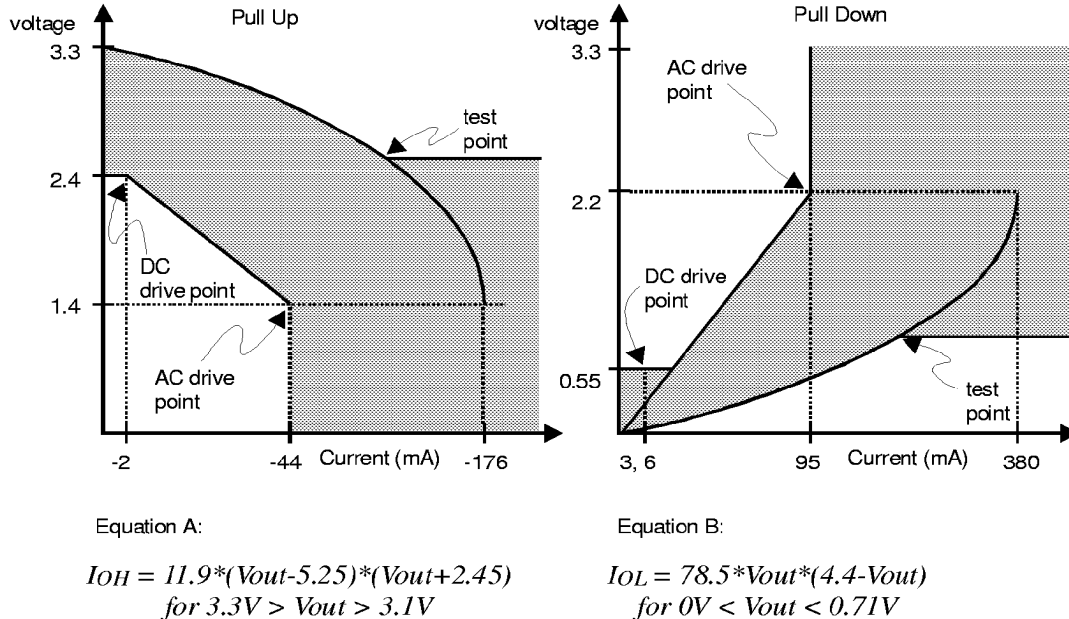

Figure 1. AC Characteristics
5. Refer to V/I curves in Figure 1. Specification does not apply to PCICLK and RST# signals. Switching Current High specification does not apply to SERR#, PME#, and INTA# which are open drain outputs.